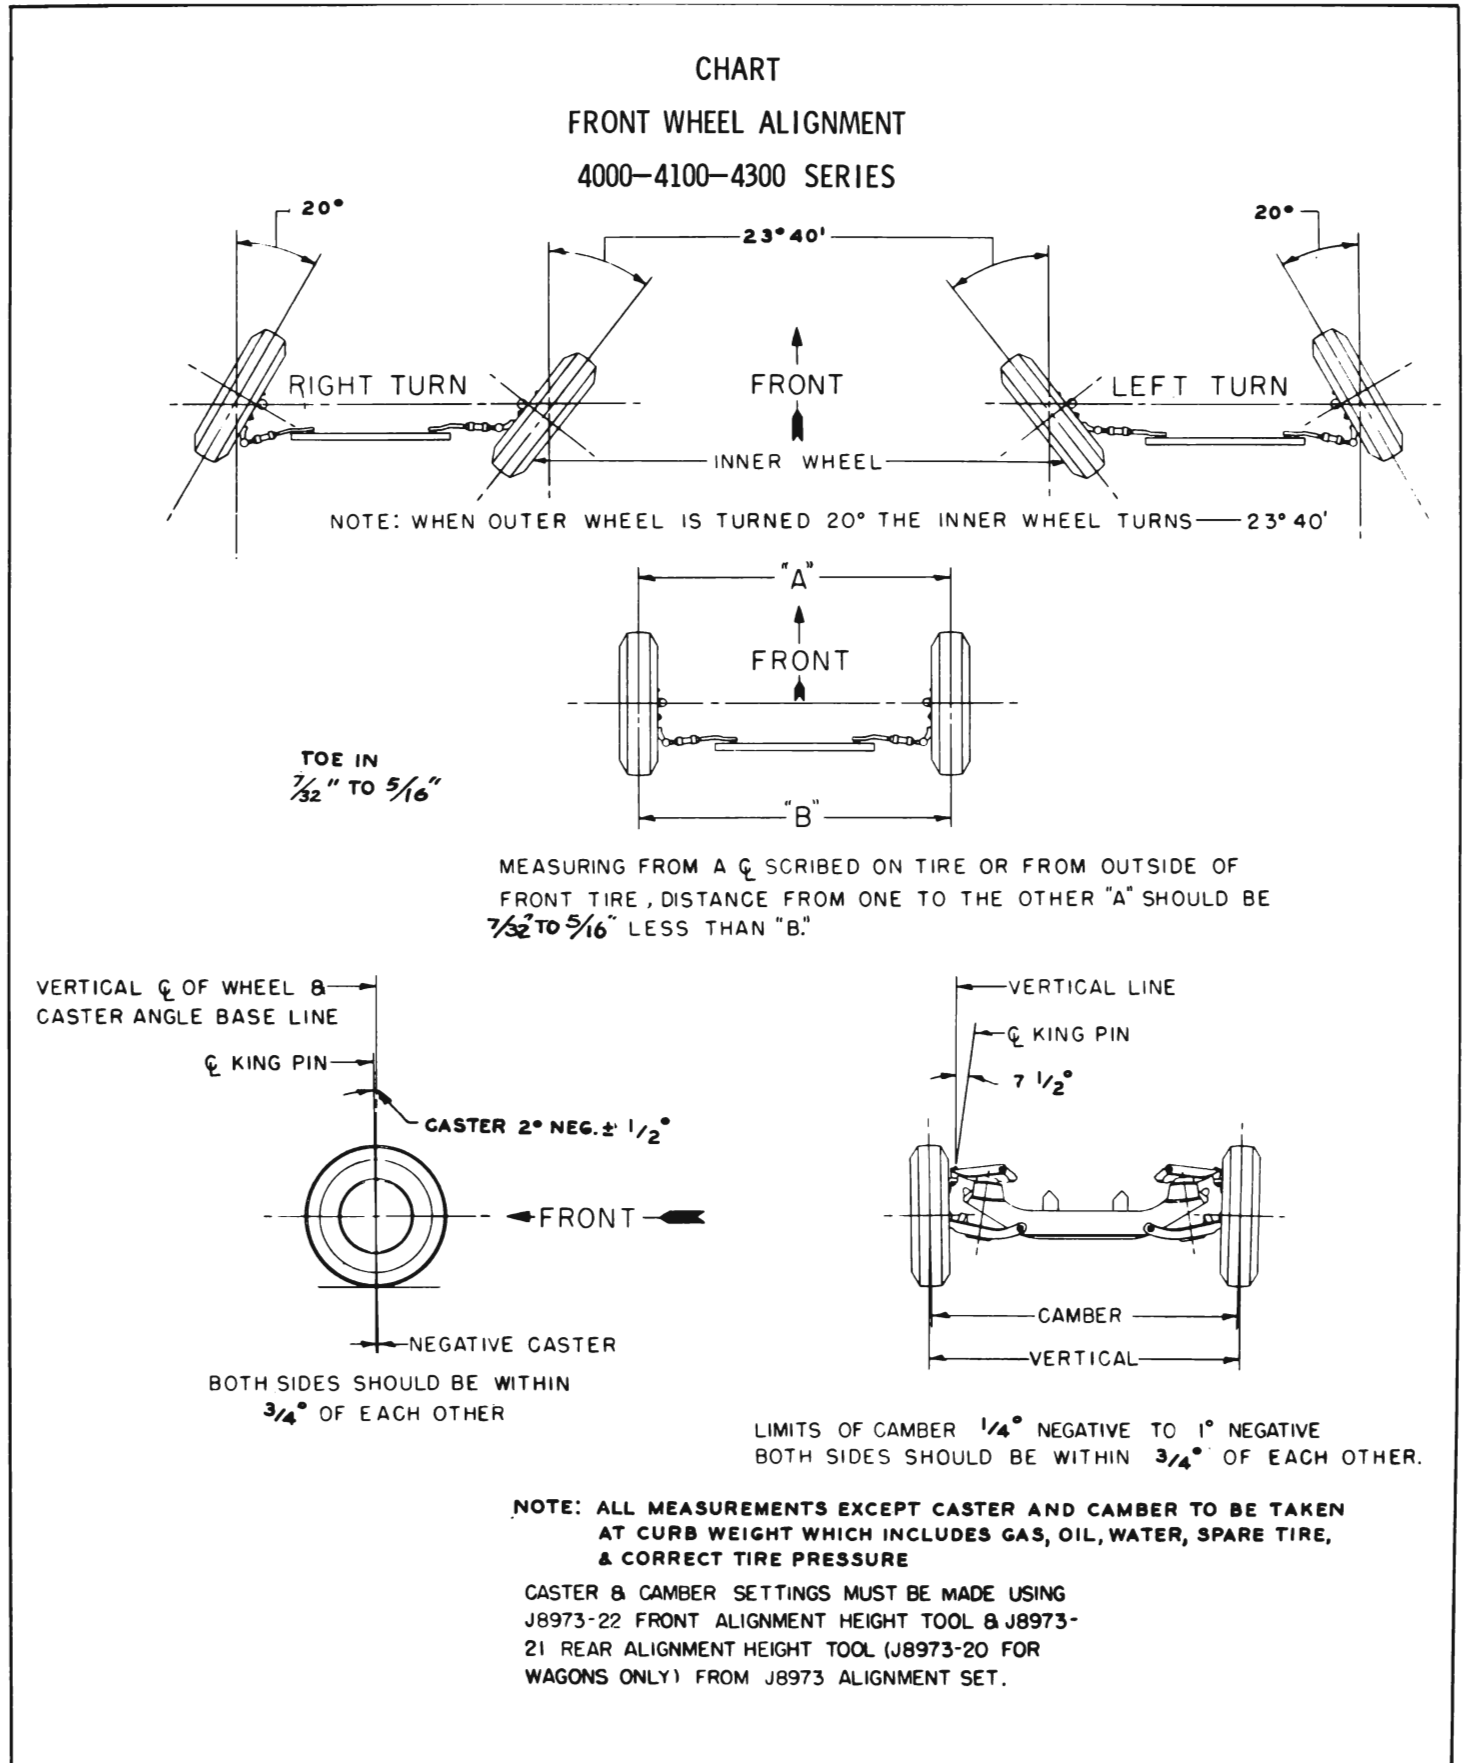

Figure 7-28—Front End Alignment Chart
Readings must be taken at points which have no run-out or which lie in the same plane. Caster and camber should be within limits shown in Figure 7-28. Note that the caster angles at both front wheels need not be exactly the same but must be within  $3/4$  degrees of each other. Likewise, the camber angles on both sides must be within  $3/4$  degrees of each other. If caster and camber are not within the specified limits, adjust as described below.
With camber known to be within specified limits, theoretical king pin inclination should check within specified limits given in Figure 7-28.
3. Using a suitable toe-in gauge, measure the distance between outside walls of tires at the front at a height approximately horizontal to floor and through the centerline of the wheel assembly. See Figure 7-28.
The measurement at the front (dimension "A") should be  $7/32''$  to  $5/16''$  less than the measurement at the rear (dimension "B"). See Figure 7-28.
1. With the front wheels resting on full floating turntables, turn wheels to the right until the outside (left) wheel is set at 20 degrees. The inside (right) wheel should then set at 23 degrees 40 minutes. See Figure 7-28.
2. Disconnect lower control arm at bracket on axle housing. See Figure 7-28. Disconnect front bracket from underbody and remove lower control arm and bracket. Be certain to note number of shims between underbody and bracket.